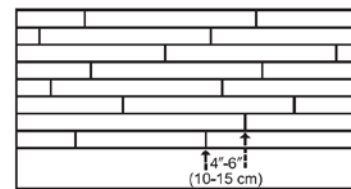
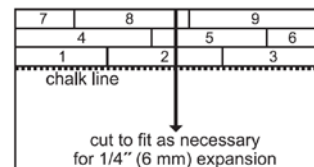
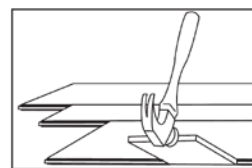

Figure 3
Figure 10c
Figure 11
- Be attentive to staggering the ends of the boards at least 4"-6" when possible, in adjacent rows (Figure 3). This will help ensure a more favorable overall appearance of the floor.
- When installing engineered products of uniform length, begin the rows with starter boards cut to various lengths. Avoid staggering the rows uniformly to prevent stair-stepping. Boards cut from the opposite end of the row may be Figure 3 used for the next starter boards.
- End-joints of adjacent rows should be staggered a minimum of 4"-6" when possible, to ensure a more favorable overall appearance (Figure 3).
- Check for a tight fit between all edges and ends of each plank. End-joints of Figure 10c adjacent rows should be staggered 4"-6" when possible, to ensure a more favorable overall appearance (Figure 3). It may be necessary to align the product with a cut-off piece of scrap as shown (Figure 11), keep scrap angle low to avoid edge damage.